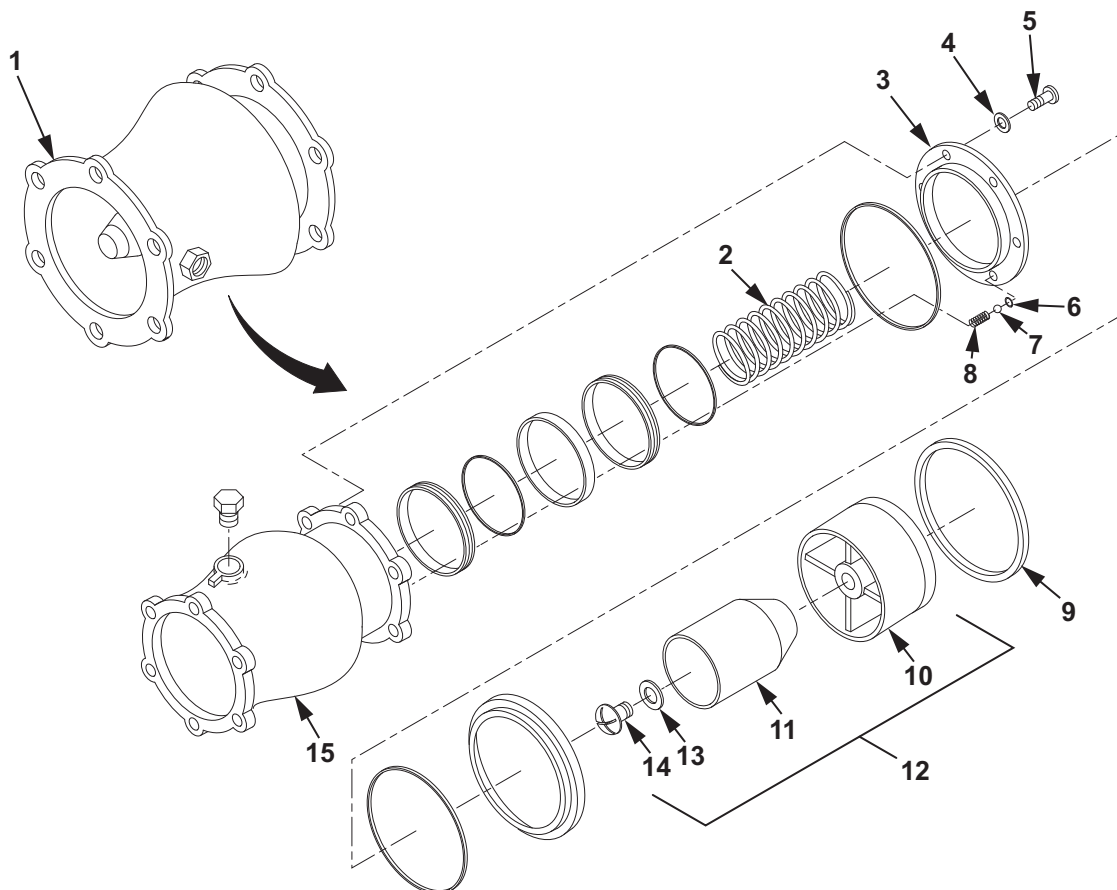

Figure 6. Hose End Control Valve Assembly.
20. Apply two drops sealing compound to threads of new screw (Figure 6, Item 14).
21. Install new packing (Figure 6, Item 13) and screw (Figure 6, Item 14) in piston assembly (Figure 6, Item 12) to secure outer piston (Figure 6, Item 10) to inner piston (Figure 6, Item 11).
22. Using torque wrench and screwdriver bit, torque screw (Figure 6, Item 14) to 18–20 in. lb (2.0–2.25 N•m).
23. Install new spring (Figure 6, Item 8), ball (Figure 6, Item 7) and new quad ring (Figure 6, Item 6) into hose end control valve housing (Figure 6, Item 15).
24. Align bleed hole of seal retainer (Figure 6, Item 3) with ball (Figure 6, Item 7) and install seal retainer (Figure 6, Item 3) onto hose end control valve housing (Figure 6, Item 15).
25. Install four washers (Figure 6, Item 4) and screws (Figure 6, Item 5) to secure seal retainer (Figure 6, item 3) to the hose end control valve housing (Figure 6, Item 15).
26. Install spring (Figure 6, Item 2).
27. Install piston assembly (Figure 6, Item 12) into the hose end control valve housing (Figure 6, Item 15).
28. Depress piston assembly (Figure 6, Item 12) to compress spring (Figure 6, Item 2) below retaining ring (Figure 6, Item 9) groove in the hose end control valve housing (Figure 6, Item 15).
29. Install retaining ring (Figure 6, Item 9) and slowly release pressure on piston assembly (Figure 6, Item 12).
1. Place hose end control valve (Figure 6, Item 1) in test unit.
2. Pressure test hose end control valve (Figure 6, Item 1) for leaks and other damage for 2 minutes.
3. Using test fluid, purge hose end control valve (Figure 6, Item 1) of air.
4. Apply 300 PSI (2,068 kPa) to both sides of hose end control valve (Figure 6, Item 1) at the same time for 1 minute.
5. During the second minute, check hose end control valve (Figure 6, Item 1) for leakage and any other damage or distortion.
7. Reject any hose end control valve (Figure 6, Item 1) showing leakage, damage or distortion.
8. Remove hose end control valve (Figure 6, Item 1) from 300 PSI (2,068 kPa) fluid pressure source.
9. Remove hose end control valve (Figure 6, Item 1) from test unit.
10. Test hose end control valve (Figure 6, Item 1) output pressure.